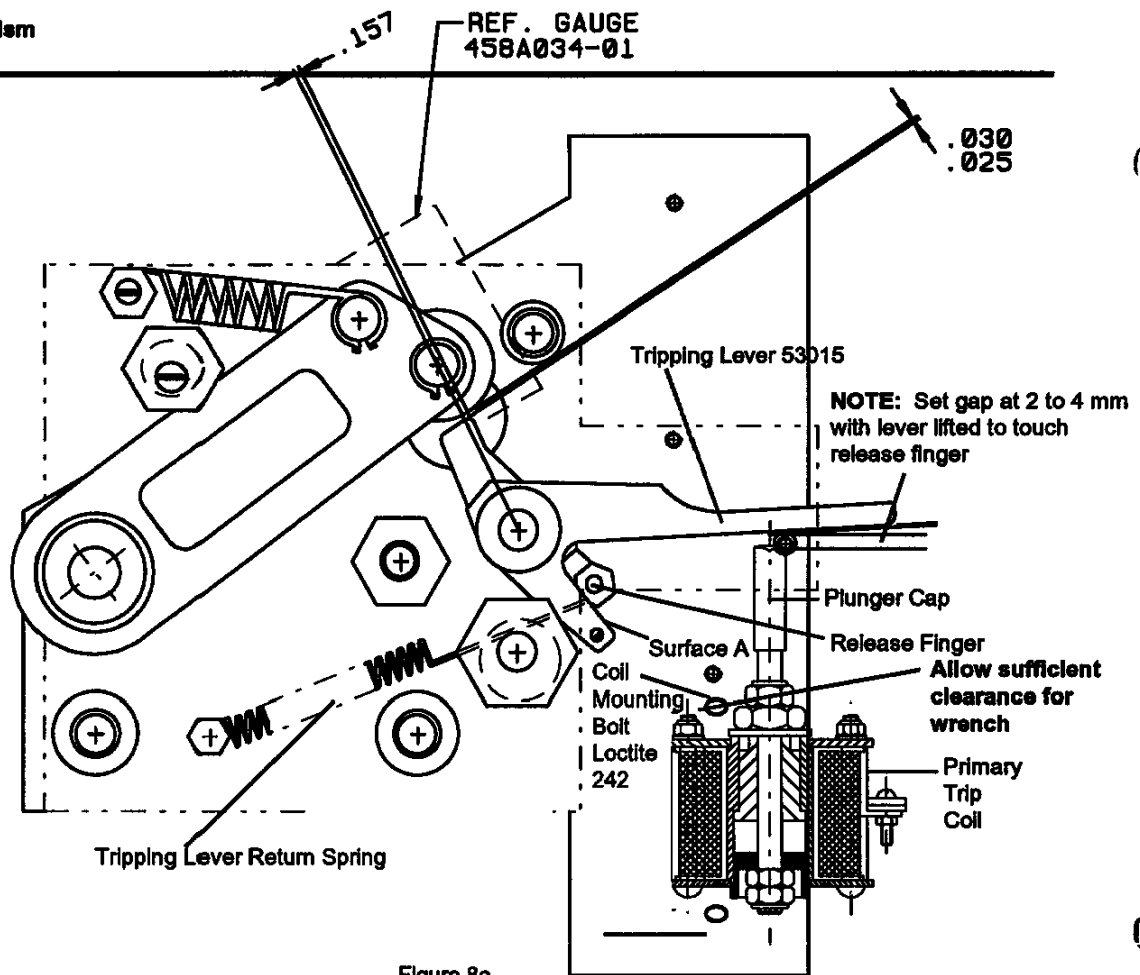

Figure 8a
Important: The circuit breaker must be closed (and the closing spring charged) to measure the gap between the plunger cap (Fig. 8a) and the tripping lever 53015. However, adjusting this gap should only be done with the closing and opening springs discharged and all control and auxiliary power disconnected. (Perform all measurements and adjustments for a close coil with the closing and opening springs discharged (no need to charge any springs) and all control and auxiliary power disconnected.)
1. With the closing and opening springs discharged and all control and auxiliary power disconnected, mount the trip coil as far to the right as possible while still allowing enough room for a wrench to fit between the trip coil and trip coil mounting bolt as shown in Figure 8a.
3. Very lightly and slowly lift the tripping lever 53015 until surface A (Fig. 8a) just makes contact with the release finger which is indicated by the tripping lever feeling harder to lift - stop lifting the lever at this point. Do not lift it any further. If you lift it any further, the circuit breaker will trip.